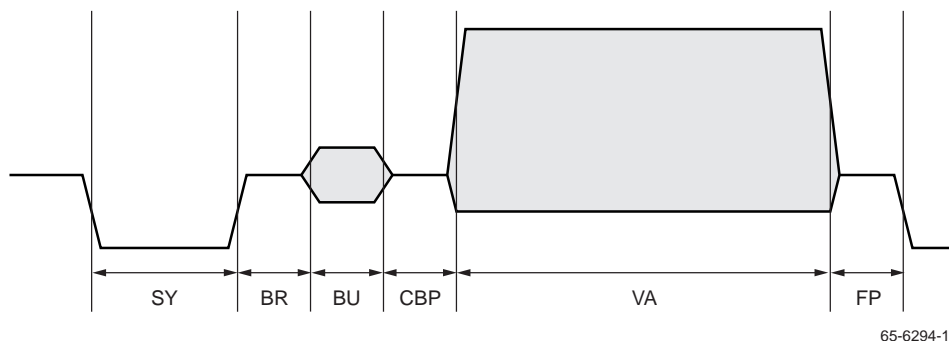

Figure 8. Horizontal Timing
The propagation delay from the pixel data (PD) input to the D/A output is 64 PXCK 's. Figure 8 shows the propagation delay for both master and slave synchronization modes. For CCIR656 data streams, pixel 736 (pixel 0 in Figure 8) is the midpoint of sync and is 32 PXCK 's (24 PXCK 's in PAL) after the EAV TRS.